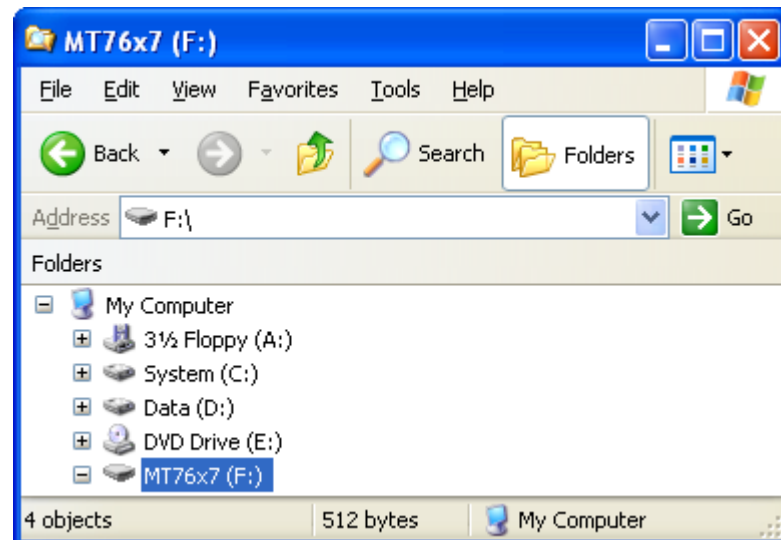

Figure 3. New removable storage detected
- 3) Navigate to **Computer** on your PC to check if a new mass storage named **MT76x7** is available under **Removable Disk**, as shown in Figure 3.